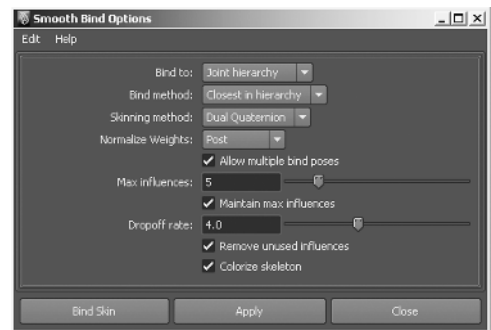

Figure 1.9
3. In the default settings, change `Skinning Method` to `Dual Quaternion`. Use Figure 1.9 to confirm your settings. Click `Bind Skin` to accept the options.